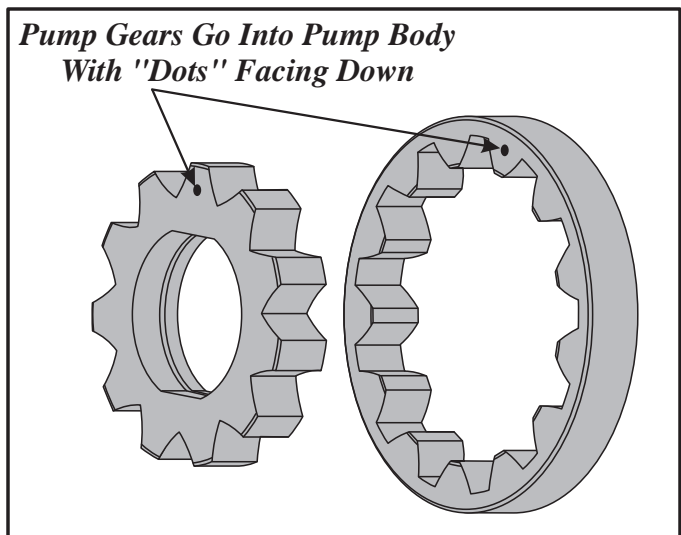

Figure 56
- Caution: The pump gears must be installed with the "Dots" facing down (See Figure 56).**